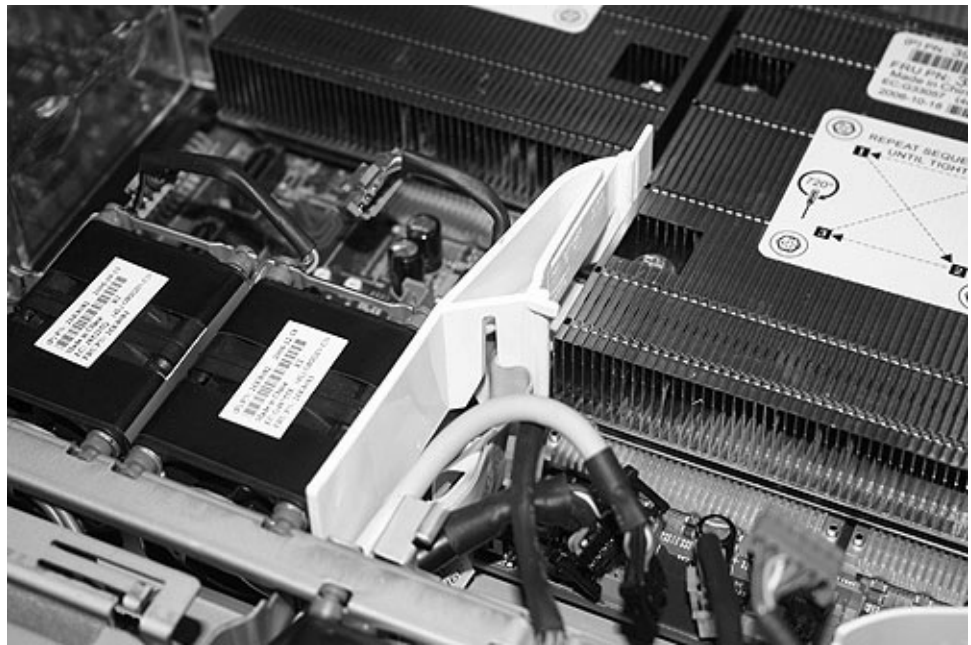

Figure 217. Left air baffle on the SAN Volume Controller 2145-8G4
11. Replace the left air baffle, which is shown in Figure 217 on page 233. You must position the CD-RW cable within the baffle.